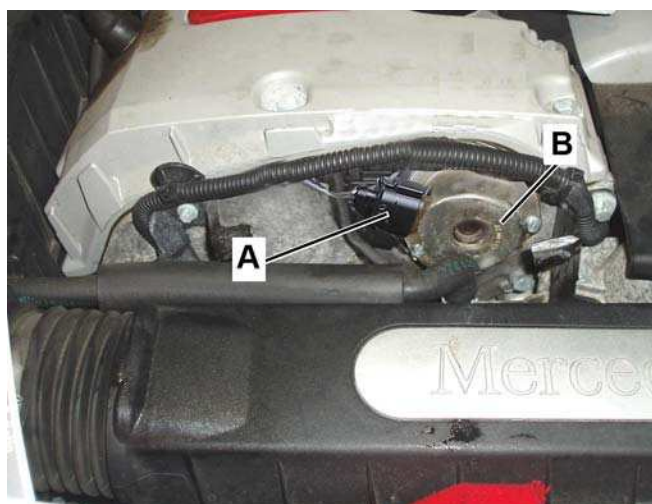

Figure 1
- Remove cover over camshaft solenoid (B, Figure 1).
- Disconnect camshaft solenoid connector (A, Figure 1) from camshaft solenoid (B)